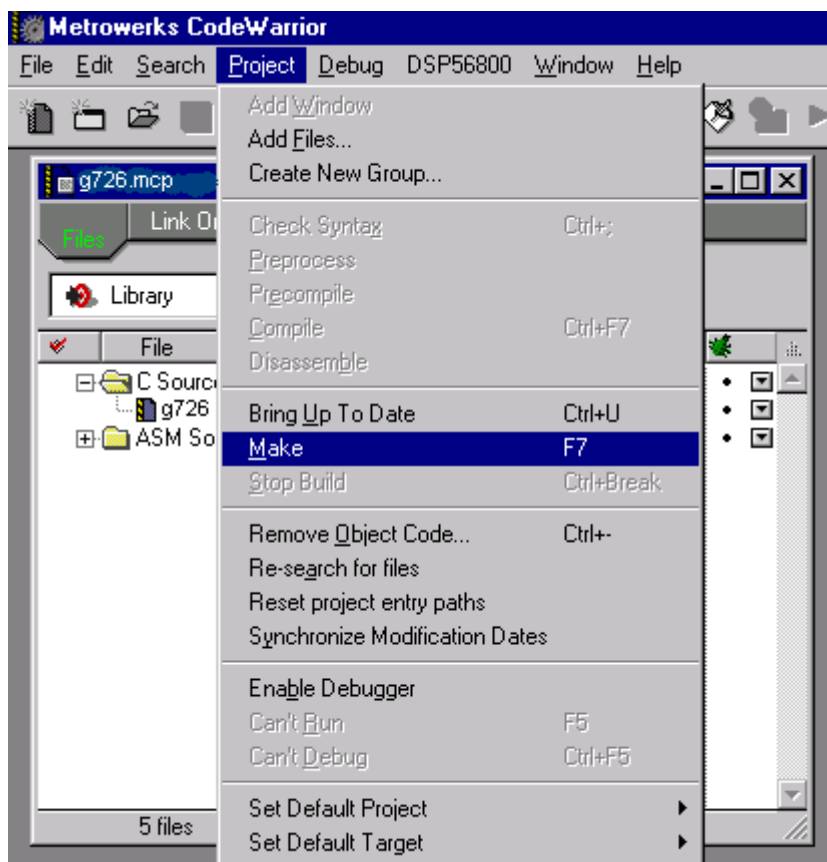

Figure 4-3. Execute Make
Step 2. Execute the build by pressing function key [F7] or by choosing the *Make* command from the Project menu; see Figure 4-3.